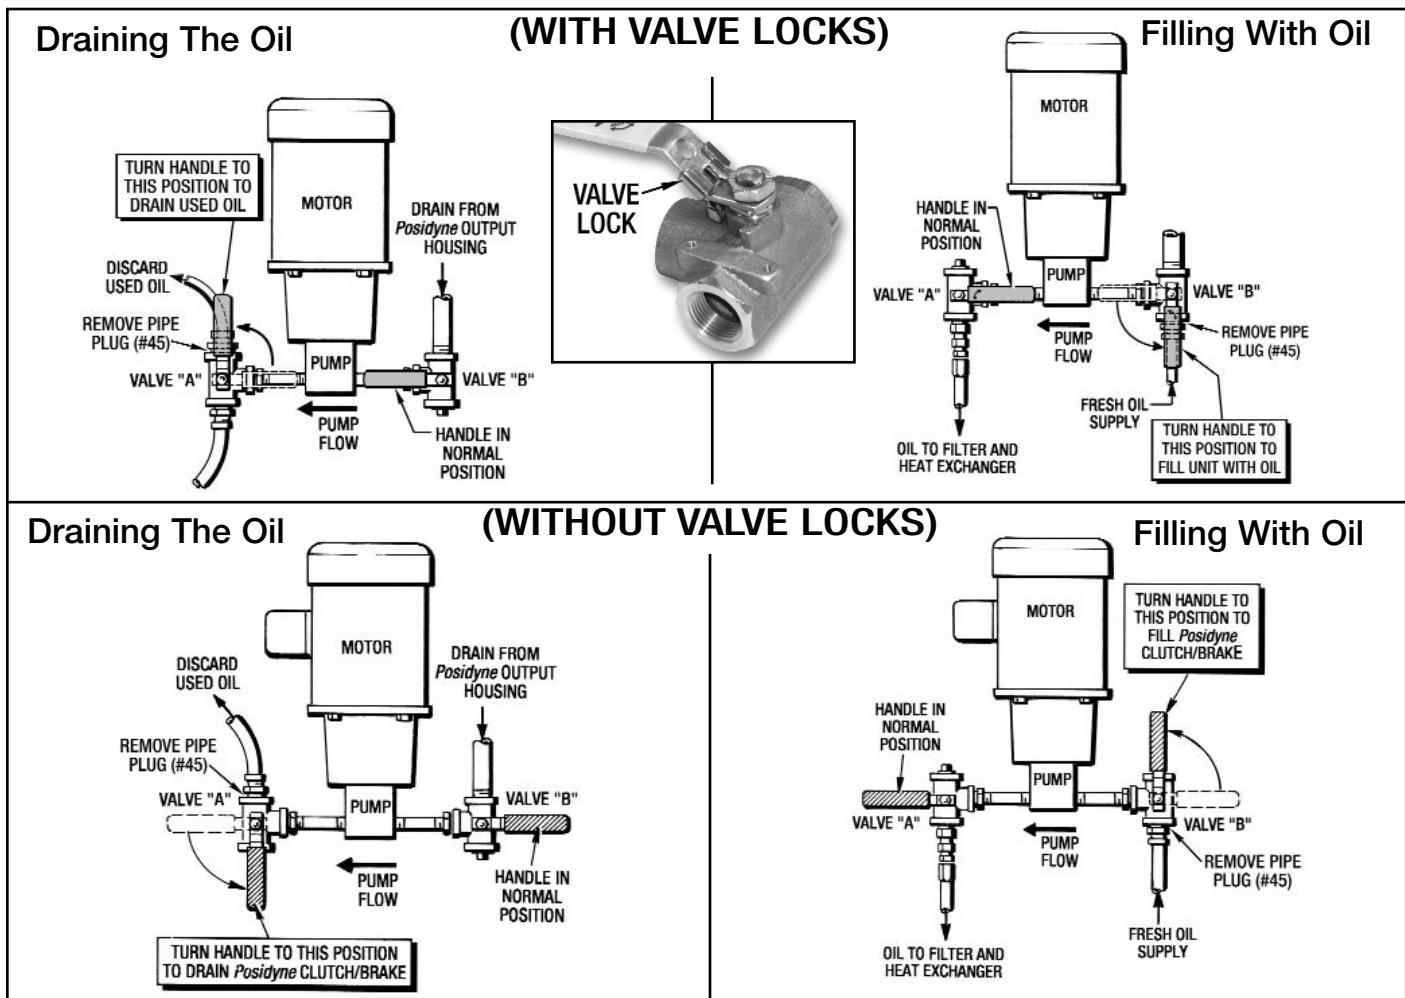

Figure 7 - Valve Positions for Draining and Filling the Oil
2. Draining the Oil (See Figure 7)
b. Turn the handle on Valve "A" to Drain Position as shown in Figure 7. (Valve "B" should be in Normal Position.) Start the Cooling Pump and drain out all of the oil into a suitable container.
3. Filling with Oil (See Figure 7)
b. Turn handle on Valve "B" to Fill Position as shown in Figure 7. Make sure that Valve "A" is in Normal Position.